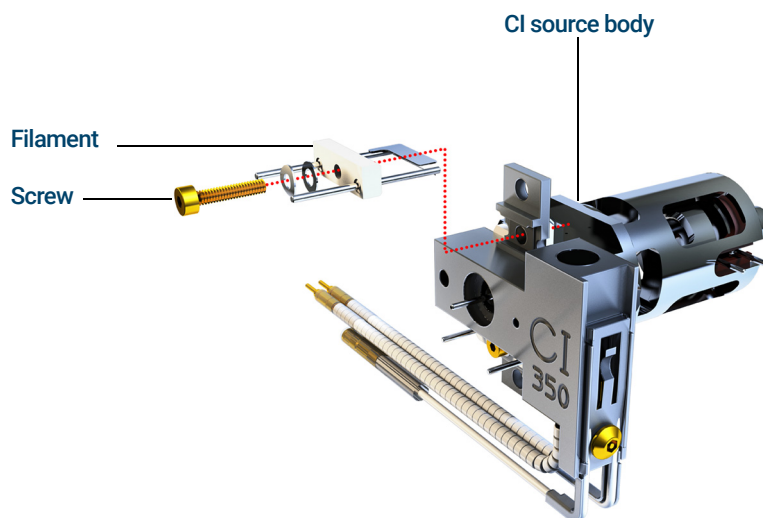

Figure 80. Changing the CI source filament
- 4 Remove the screw holding the filament to the CI source body. (See **Figure 80** on page 239.)
- 5 Slide the filament off the CI source assembly. (See **Figure 80** on page 239.)
- 2 Place the new filament into its position on the ion source body. (See **Figure 80** on page 239.)